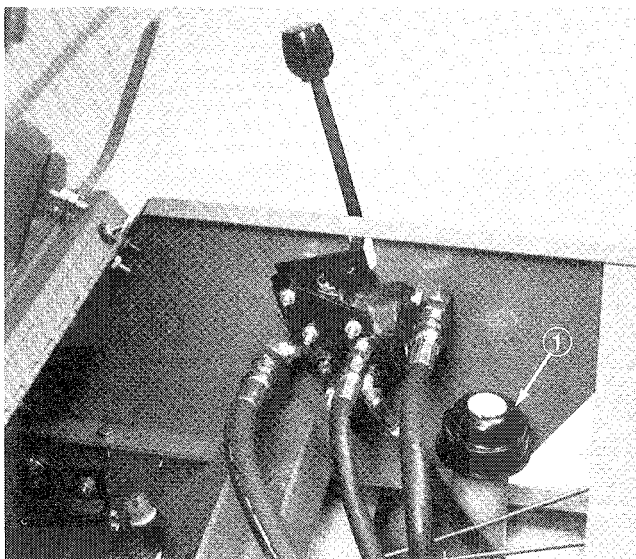

Figure 8
- 2. Remove dipstick cap (Fig. 8) from filler neck and wipe it with a clean rag. Insert dipstick cap